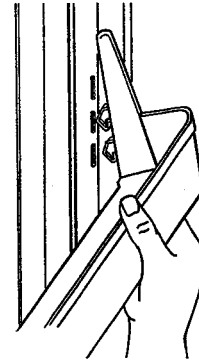

Figure 58
- Hold shelf against door and tap down gently on both ends until shelf is seated securely. See Figure 58.